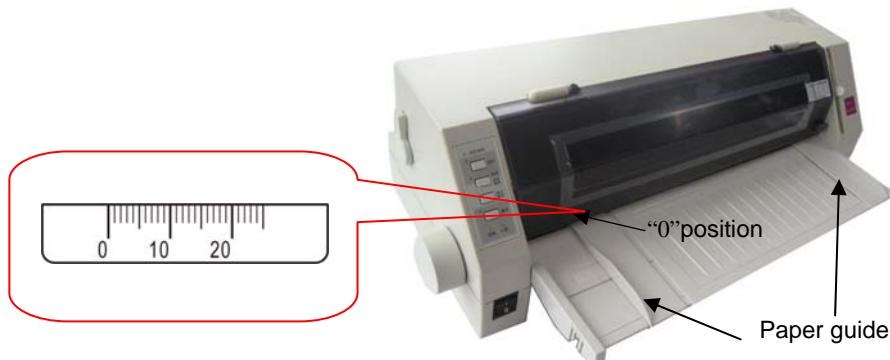

Figure 3-3 Adjusting the paper guide
3. Position the left hand cut sheet guide by referring to the marking on the window cover. (On the left side of the window cover, "O" indicates the transverse valid printing home position) As shown in Figure 3-3.